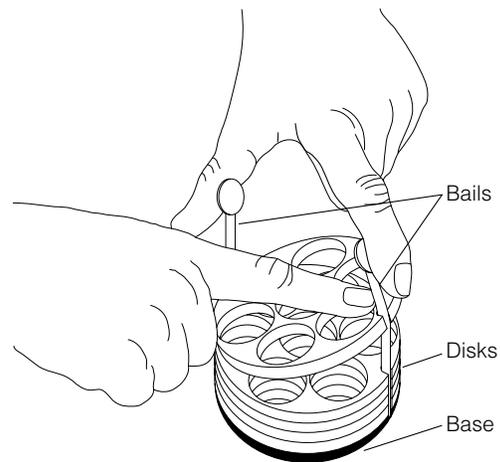

Figure 7. Assembling a Modular Disk Adapter
1. Select the appropriate adapter base (from Table 2) and attach a bail to it (see Figure 7).